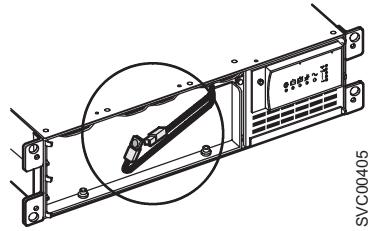

Figure 312. The 2145 uninterruptible power supply internal battery connector with protective tape
- a. Remove the protective tape from the internal battery connector (shown in Figure 312).